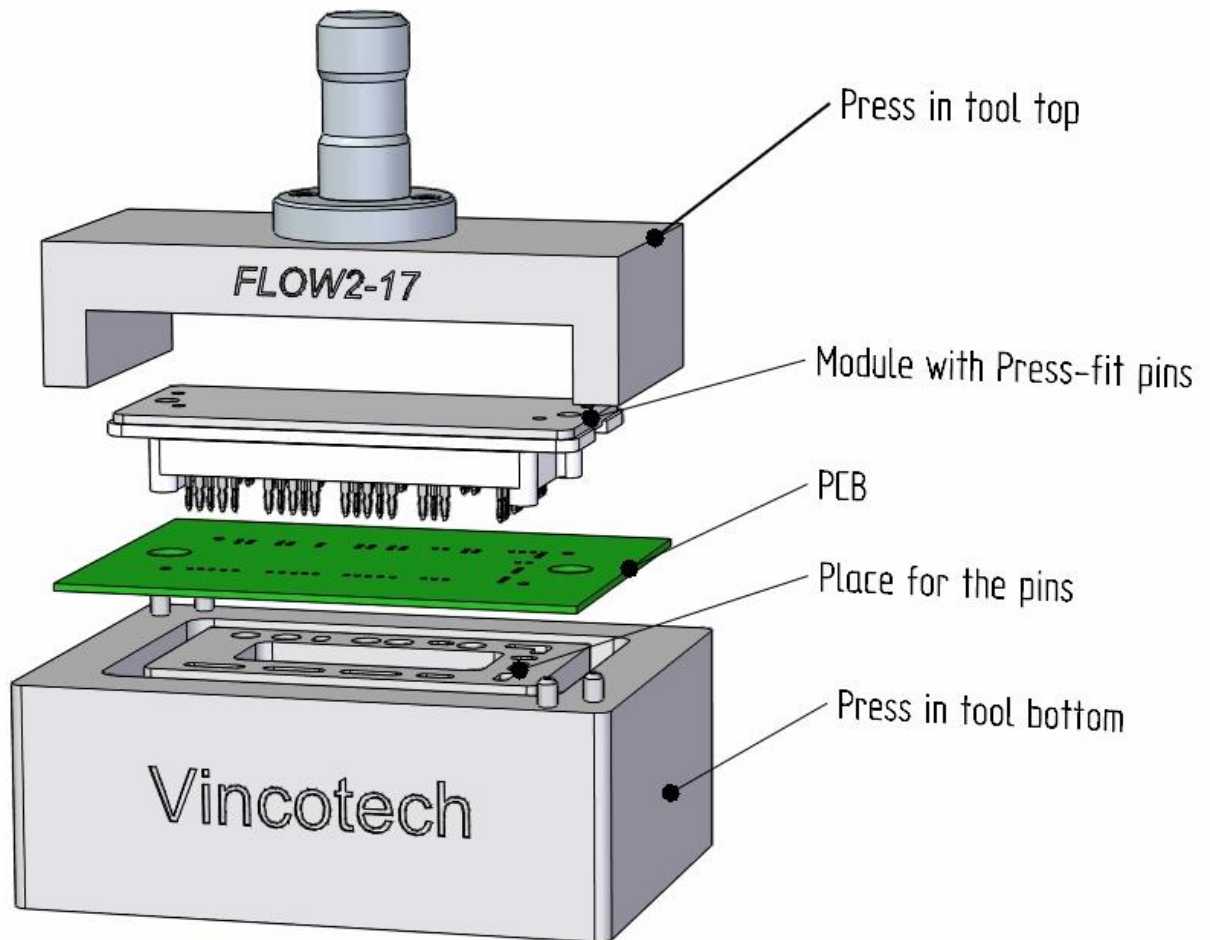
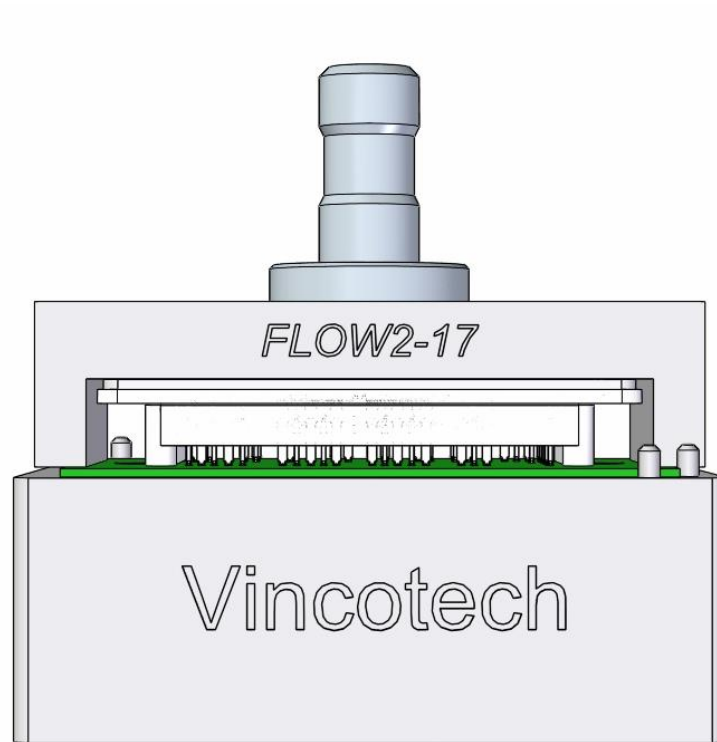

Figure 13: Recommended construction for the press in process
Figure 14: Press-in tools closed, module is pressed in
- The module can be pressed into the PCB from the top (as Figure 13 & Figure 14 shows) or the PCB can be pressed onto the module from the top (the module is below the PCB).
This condition is automatically fulfilled with the use of the recommended press-in tool. Figure 14 shows the closed press-in tool with the module.